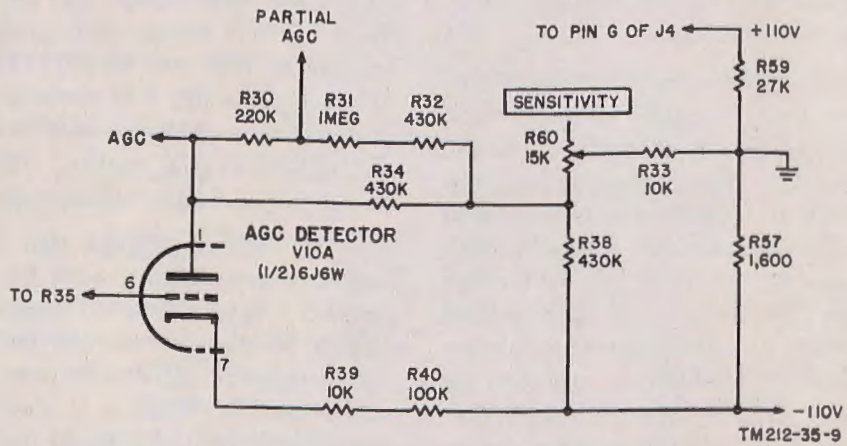

Figure 9. Agc detector V10A.
The agc detector and control tube V10 is a type 6J6W twin triode that is used for three separate but related functions. Grid pin 6 and cathode pin 7 operate as a detector, plate pin 2, grid pin 5, and cathode pin 7, operate as a triode to control the operation of plate pin 1 and cathode pin 7 (fig. 9) which operate as the agc bias diode. Note that each of these circuits use the common cathode pin 7. These circuits are explained below.
c. The agc bias diode (fig. 9) consists of plate pin 1 and cathode pin 7. Plate 1 of V10A is connected through R34 to the junction of SENSITIVITY control R60 and resistor R38 (fig. 9). Resistors R30, R31, and R32 form a voltage divider which is in parallel with R34. Resistor R38, SENSITIVITY control R60, and resistor R33 are connected across the -110-volt supply and ground (fig. 9). The junction of R38 and SENSITIVITY control R60 to which plate pin 1 is connected may be varied in potential (-2.42 to -6.05 volts) by adjusting the SENSITIVITY control. This voltage is the no-signal bias for the various stages in the receiver.
d. The cathode of V10A (fig. 9) is positive with respect to ground when weak RF signals are being received. As the signal strength increases, the cathode becomes less positive and finally for strong signals negative. A detailed description of how this occurs may be found in *b* above. When the RF signal being received is weak, there is no agc action since the cathode of V10A is positive; its plate is negative (plate potential was established in *c*